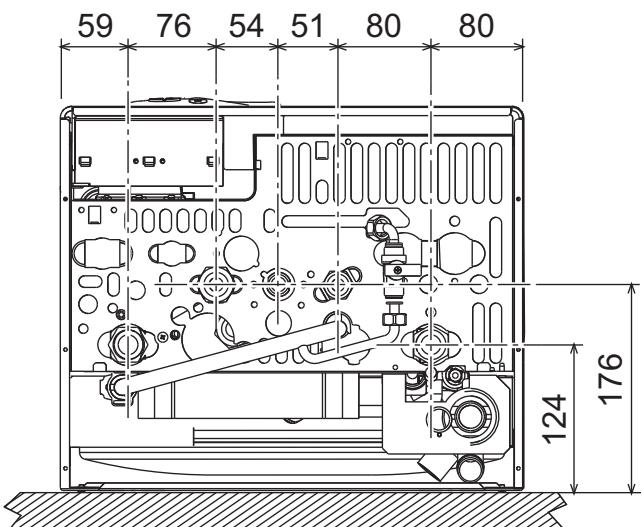
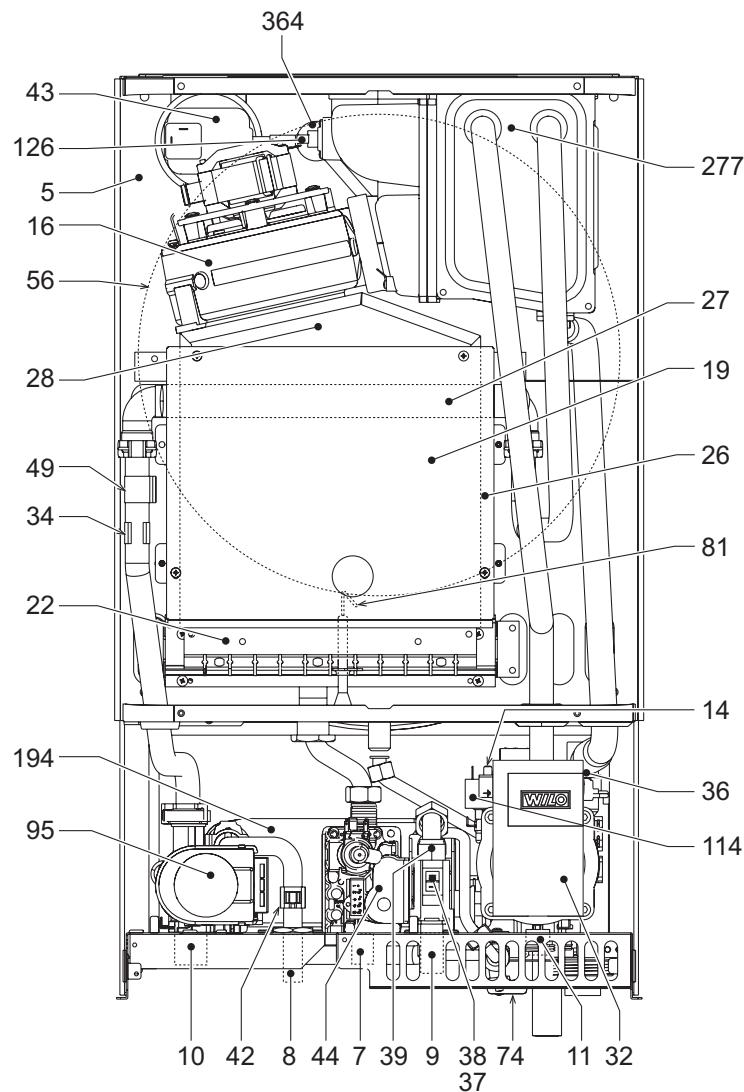
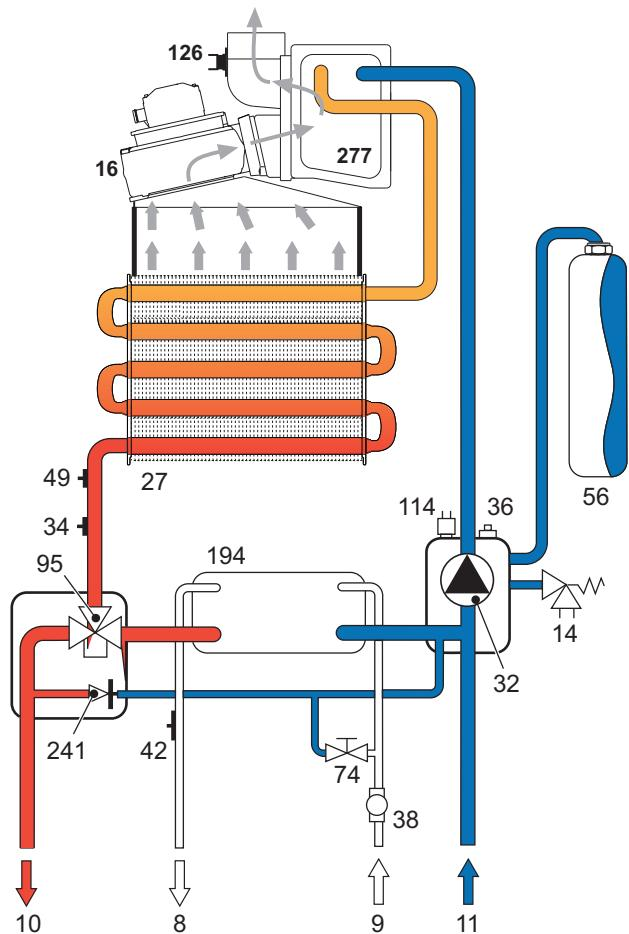

fig. 19 - Bottom view
fig. 21 - General view
fig. 22 - Heating circuit
**Table. 9 - Key fig. 19, fig. 21, fig. 22 and fig. 23**